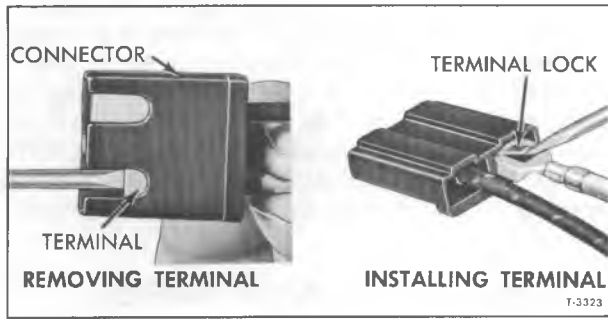

Figure 3—Replacing Blade Type Connector Terminals
1. To remove a blade-type terminal from the connector, disengage lock tangs and separate connector. Insert a thin bladed instrument under mating end of connector terminal and pry up on terminal being careful not to damage connector. Pull wire and terminal from connector as shown in figure 3.